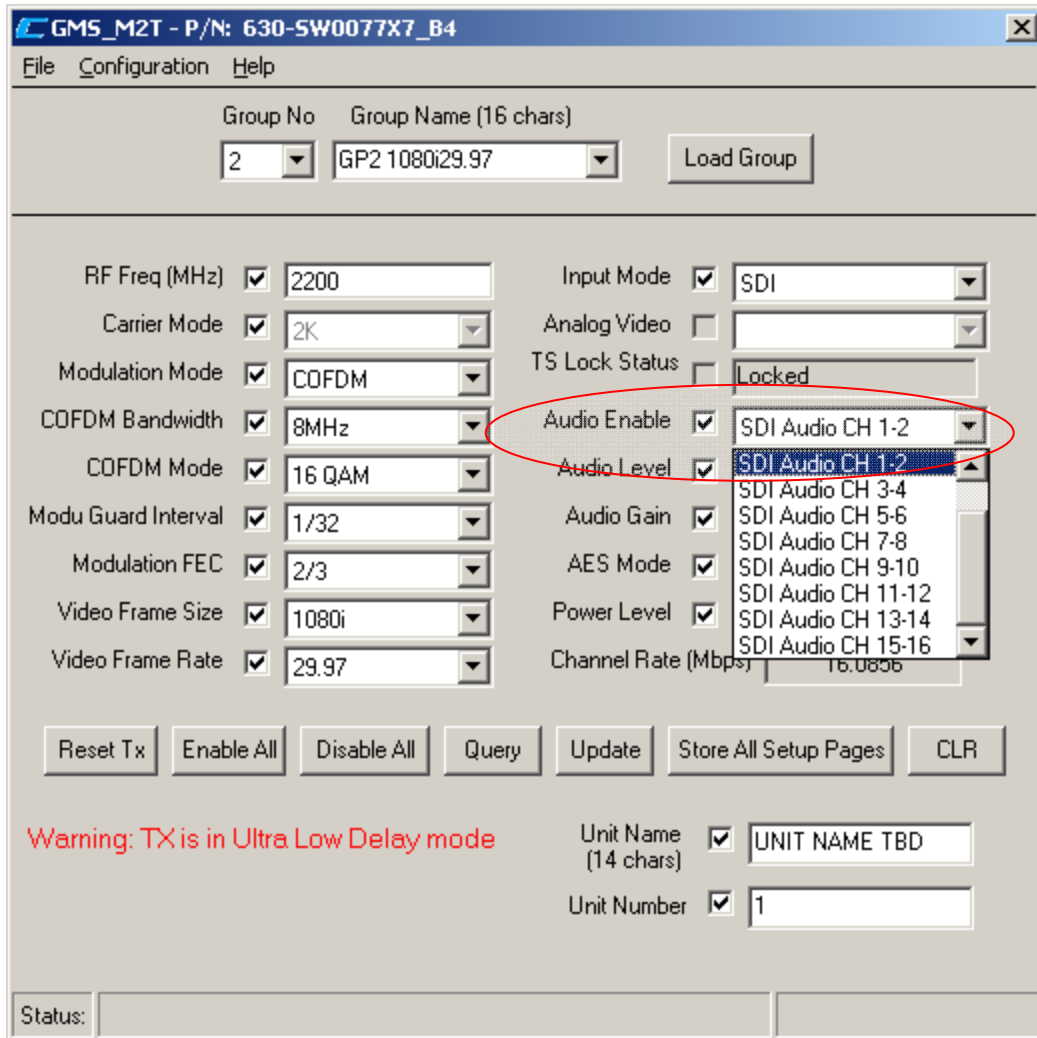

Figure 17 Audio Selection
- SDI CH 1-2..... ..to SDI CH 15-16 (see figure 17 below)